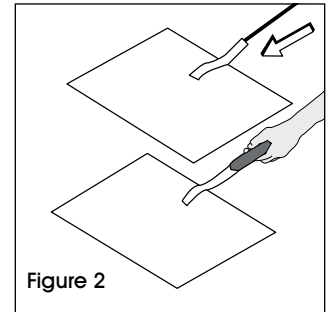

Figure 2
2. Select the proper size bag and load it on the air supply nozzle. (See Figure 2)